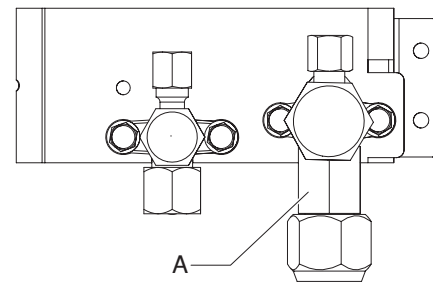

Fig. 7-7
- When removing or tightening the gas tube flare nut, use 2 monkey wrenches together: one at the gas tube flare nut, and one at part A. (Fig. 7-7)